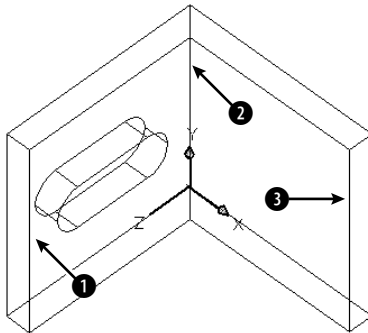
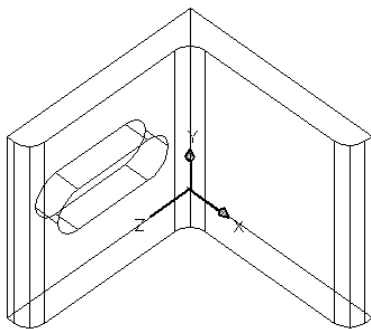

Figure 24-35: The mounting angle needs filleting.
Figure 24-36: The filleted mounting angle.
2. Save the file as `ab24-11.dwg` in your AutoCAD Bible folder. This is a solid model of a mounting angle, as shown in Figure 24-35. It needs to be filleted.
4. At the `Select first object or [Polyline/Radius/Trim/mUltiple]: prompt`, pick the edge at ❶ in Figure 24-35.
6. At the `Select an edge or [Chain/Radius]: prompt`, pick ❷.
8. Save your drawing. It should look like Figure 24-36.
You can move a face when a solid is complex enough to have at least two separate elements—for example, a plate with a hole in it. You can then move the hole around wherever you want. Look at the mounting bracket in Figure 24-36, earlier in this chapter. You could move the hole from the left face to the right face using SOLIDEDIT. To move a face, follow these steps: